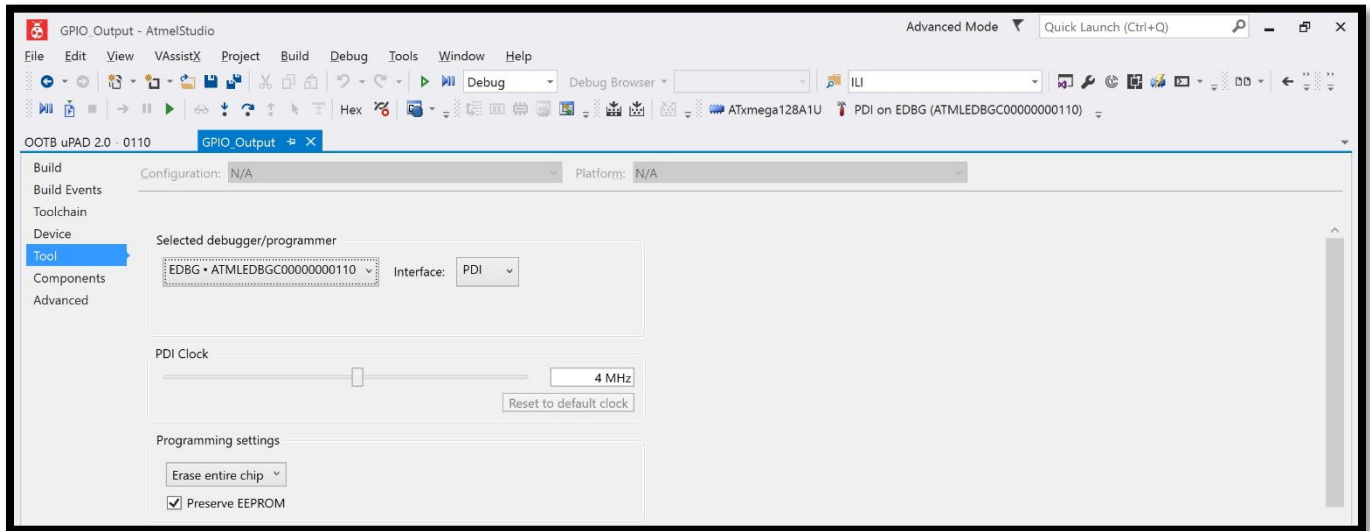

Figure 18: Selecting the on-board μ PAD debugger.
1. Connect the μ PAD to your computer with your USB A/B connector cable. Select the on-board Atmel Embedded Debugger (EDBG) as the *Selected debugger/programmer*, within the project *Tool* menu, as done in Step 3 of the Simulation section. Also verify that the *Interface* is chosen to be *PDI* (as shown in *Figure 18*). Finalize these changes by saving the project.
2. If the EDBG device does not appear as shown in *Figure 18*, there are a few possibilities to correct this problem.